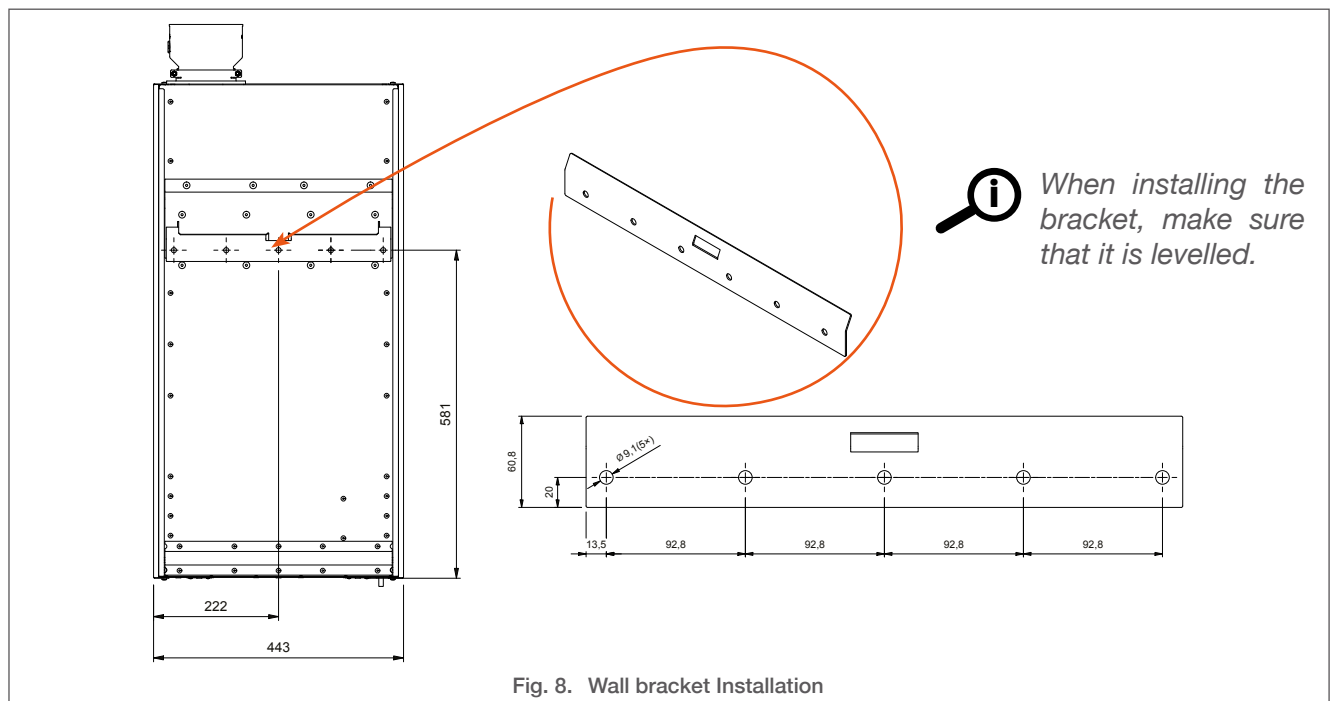

Fig. 8. Wall bracket Installation
1. Install the wall bracket to support the boiler, see procedure opposite and related figure. (See **Fig. 8**).